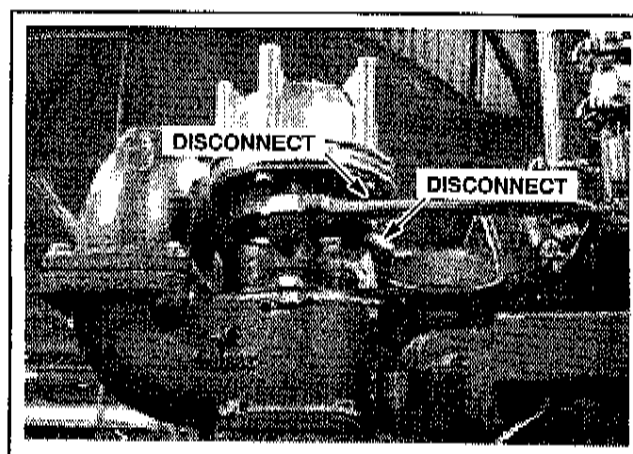

Figure 5.35-15. Wastegate Tubes
2. Loosen ferrule nuts (9/16 in. hex) to detach compressor discharge pressure sensing tubes from "Air" port at side of each wastegate (see Figure 5.35-15).